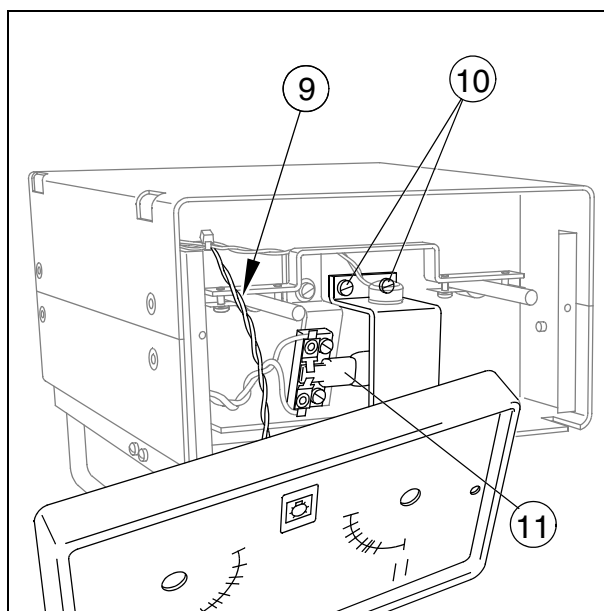

Fig. 8
- Caution:** The front panel is connected to the collimator via a cable (9/Fig. 8).
Caution: The front panel is connected to the collimator via a cable (9/Fig. 8).
- Remove both screws (10/Fig. 8) and take off the metal bracket for the temperature switch).
- Take out the defective lamp (11/Fig. 8) and replace it with a new lamp